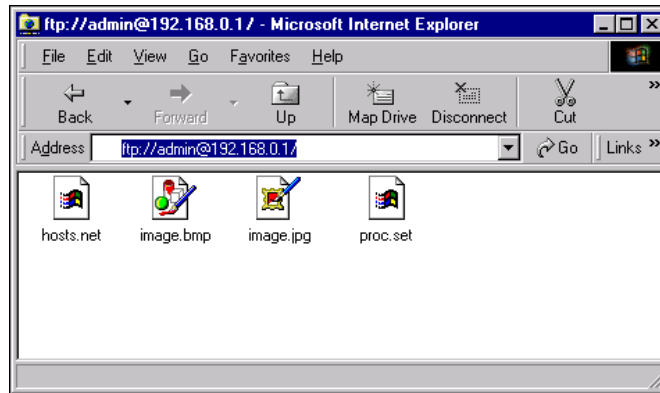

Figure A-2: Installed Wafer Reader Files
- 5 Click Login to log on to the In-Sight sensor's FTP file system. If the logon is successful, all of the files currently installed on the wafer reader are displayed in the Internet Explorer window, as shown in Figure A-2.